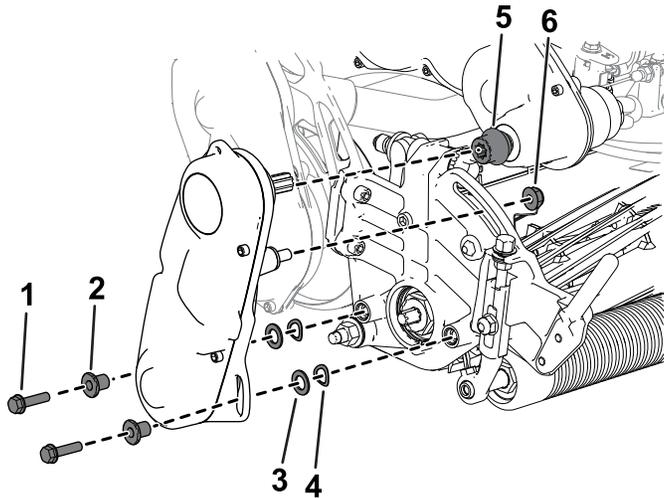

Figure 49
3. Remove the reel-drive assembly from the cutting unit (Figure 49) and retain the hardware.